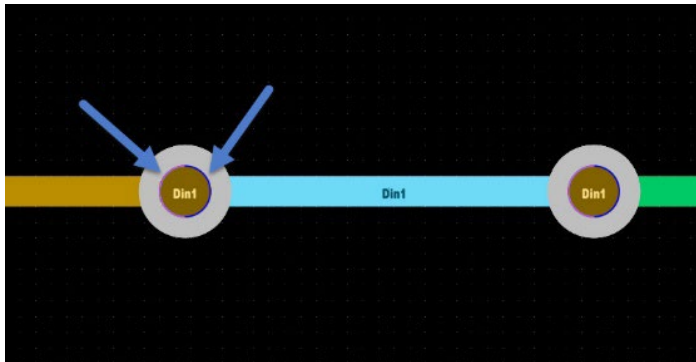

Figure 11. Via color coding for Back Drill
17. Switching to the 2D viewing mode, zoom into those back drilled vias. Here we see they have a bicolored inner circle indicating that they are back drilled, the colors indicate which layers are involved, Figure 11.